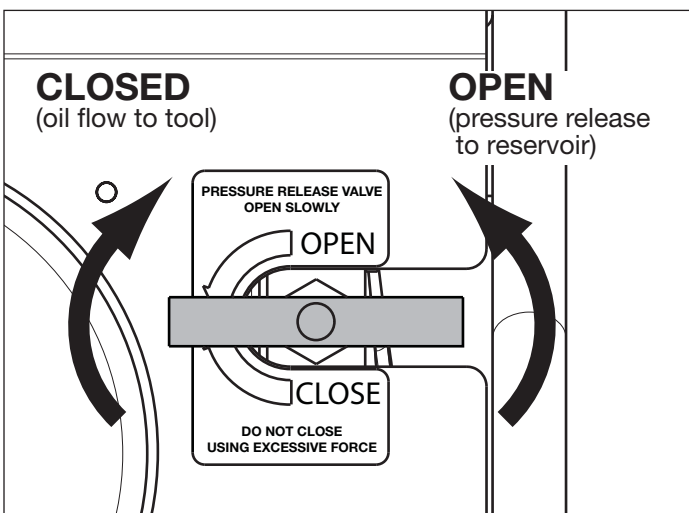
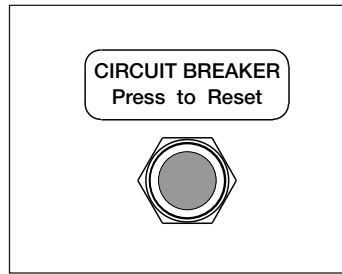

Figure 4, Pressure Release Valve
Figure 8, Circuit Breaker
5.1 Pressure Release Valve (See Figure 4)
2. Fully close the pressure release valve. See Figure 4.
10. Slowly open the pressure release valve to relieve pressure in the oil outlet line. See Figure 4. Verify that pump pressure gauge indicates zero (0) psi/bar.
3. Close the pressure release valve. See Figure 4.
1. Slowly open the pressure release valve to relieve system pressure. See Figure 4.
2. Verify that the pump pressure gauge indicates zero (0) psi/bar.
5.7 Circuit Breaker (See Figure 8)